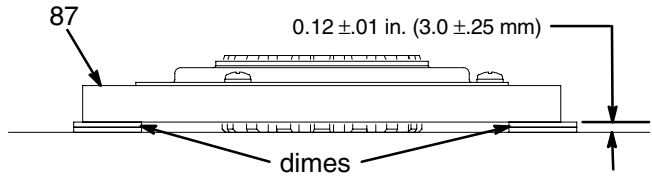

Fig. 8
1. Fig. 8. Lay two stacks of two dimes on smooth bench surface.
2. Lay armature (87) on two stacks of dimes.